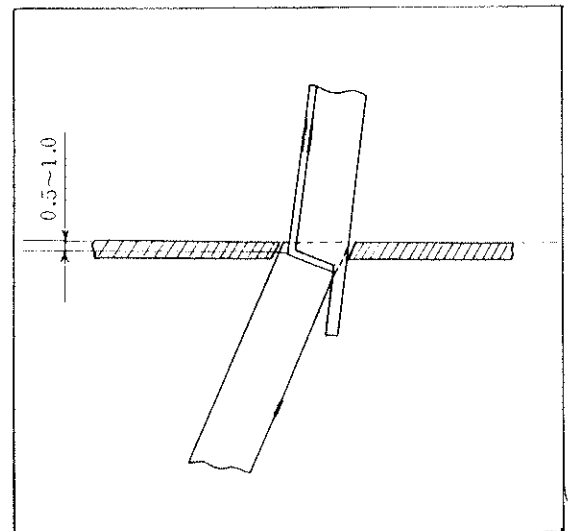

fig 13
LOOSEN SCREW (T), PULL KNOB (V) SLIGHTLY TO LEFT LEAVING A SMALL CLEARANCE BETWEEN UPPER AND LOWER KNIFE AND TIGHTEN (T) TEMPORARILY. NOW REMOVE NUT (X) FIGURE 12, USING SPANNER SUPPLIED IN ACCESSORY BOX. UPPER KNIFE CAN NOW BE REMOVED AFTER TAKING OFF GUARD (Y). TO REPLACE KNIFE TURN HANDWHEEL SO THAT PART (X) IS AT THE LOWEST POSITION IN RESPECT TO NEEDLE PLATE. REPLACE KNIFE AND GUARD (Y), TIGHTEN NUT (X), NOW LOOSEN SCREW (T), AND PUSH (V), SLIGHTLY TO YOUR RIGHT. WHILE MAINTAINING THIS SLIGHT PRESSURE TIGHTEN (T). THE CORRECT POSITION OF THE KNIFE IS SHOWN IN FIGURE 13.